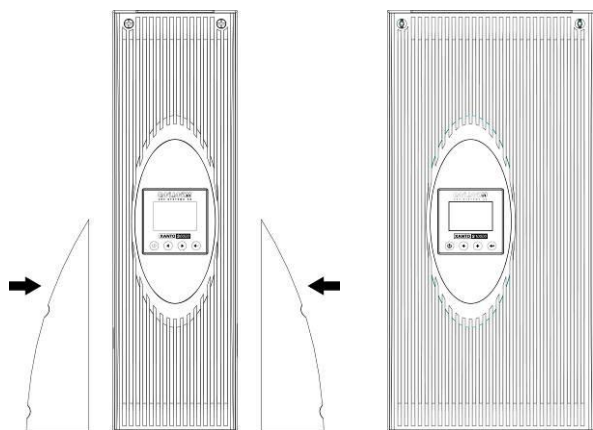

Figure 4: XANTO S 6000 and 10000, Tower Installation
1. Place the UPS system on a level, stable surface at its final position (see Figure 4)
3. For installation without battery modules, mount the housing brackets for the XANTO S 6000 (see Figure 4).